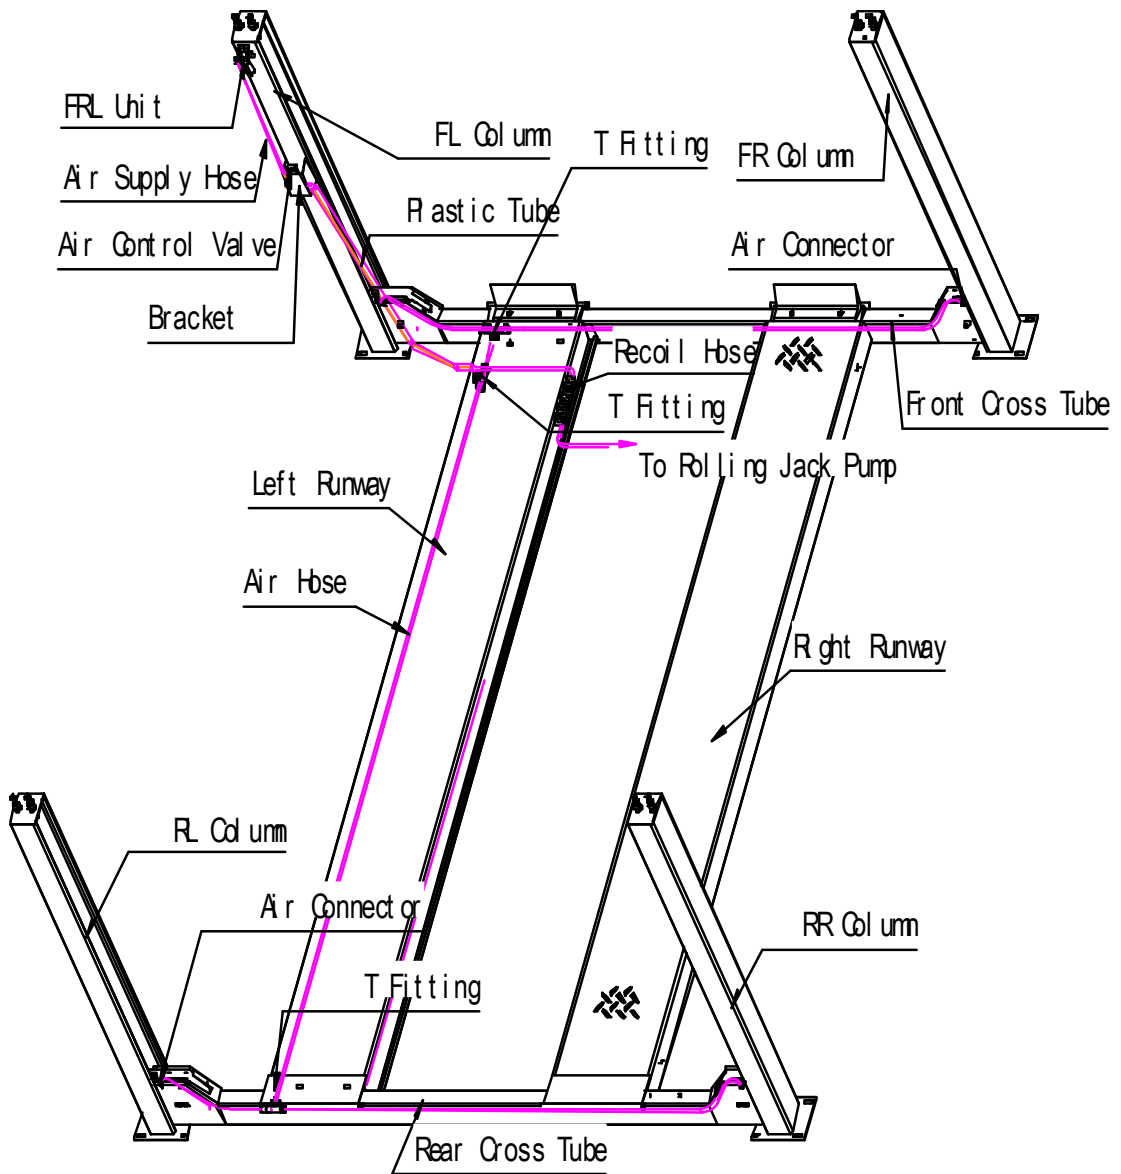

Fig.15
- Route the air lines based on Fig.15 and check for air